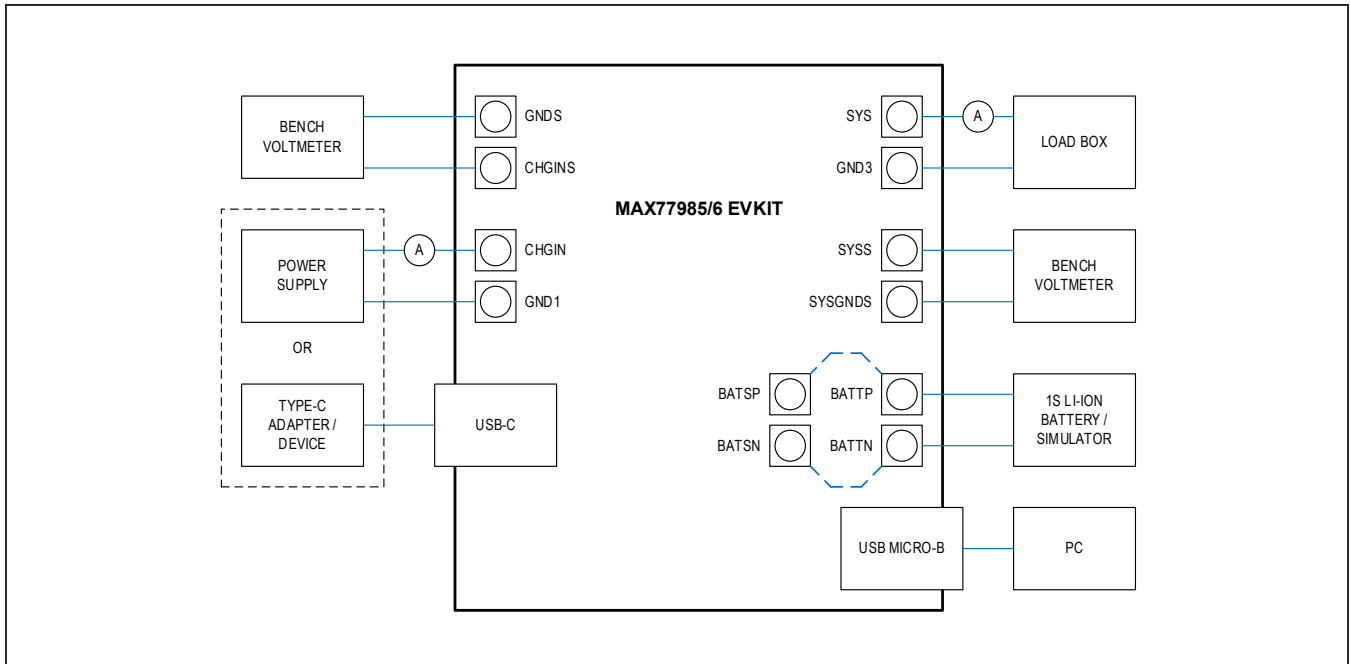

Figure 1. MAX7798xx EV Kit Board Connections. The power supply and the USB Type-C adaptor can NOT be applied at the same time.
- 5) Make connections to the EV kit board following guidance as shown in Figure 1. The two main inputs to apply are the battery and the charging adaptor. For quick start evaluation, it is suggested to use a 5V power supply at the CHGIN input and a battery voltage greater than 3.6V at the BATT input. The optional voltmeter and ammeter location for testing charger efficiency is indicated in Figure 1. When set up properly with both CHGIN = 5V and BATT = 3.8V input, the SYS voltage is regulated above VBATT by default.